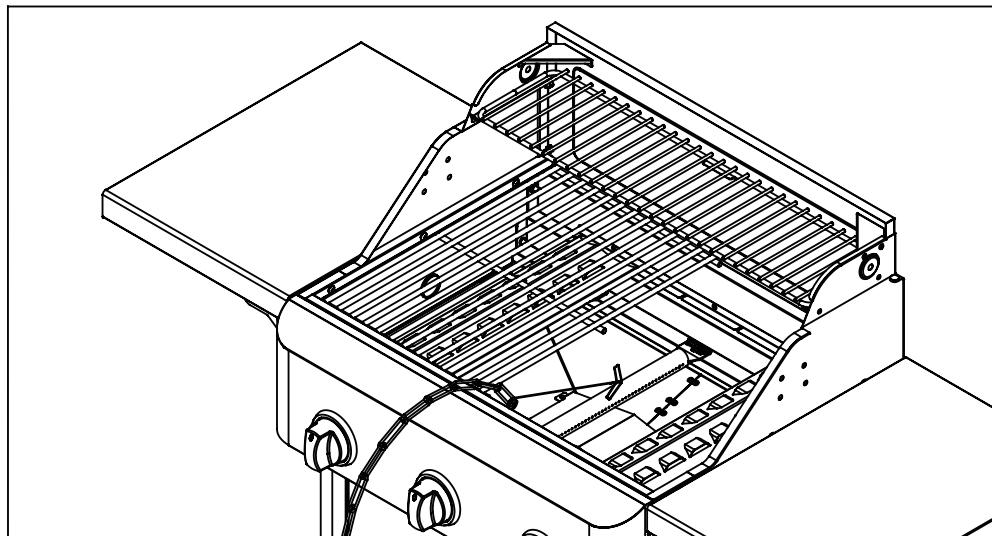

Fig. 28 Match/Paper Lighting Illustration
4. Attach either the match or paper to the clip shown in Fig. 28, light the match and insert it close to the ports of the burner, push and turn the depressed knob to the left to "HIGH" position.